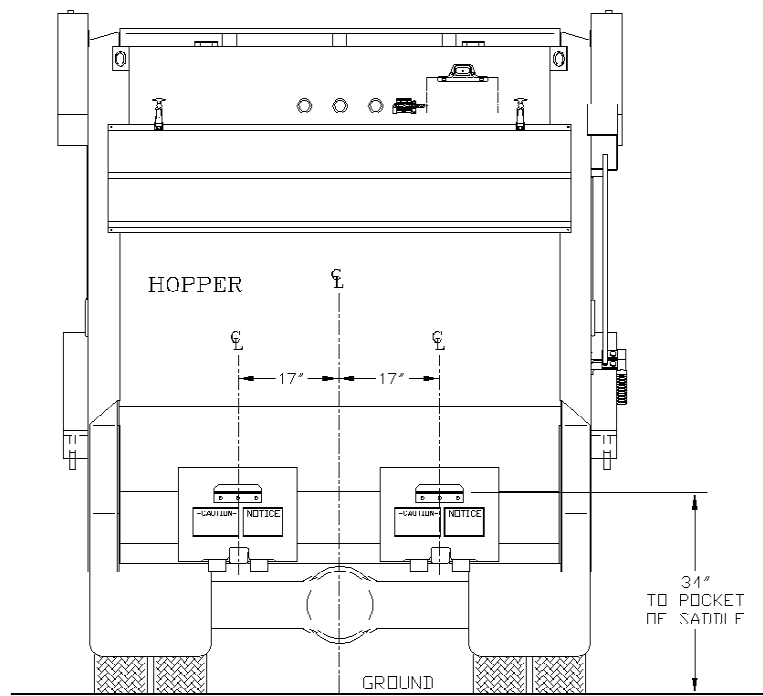

figure I-1
3. Position the lifter(s) on the sill of the truck per *figure I-1* and mounting height drawing (*Appendix A*) and tack weld in place. If using an “S” unit for bolt on applications, tack weld the mounting plate in place and attach the lifter to the mounting plate using the 1/2” studs. (*tack weld only at this time so that adjustments can be made if necessary.*).